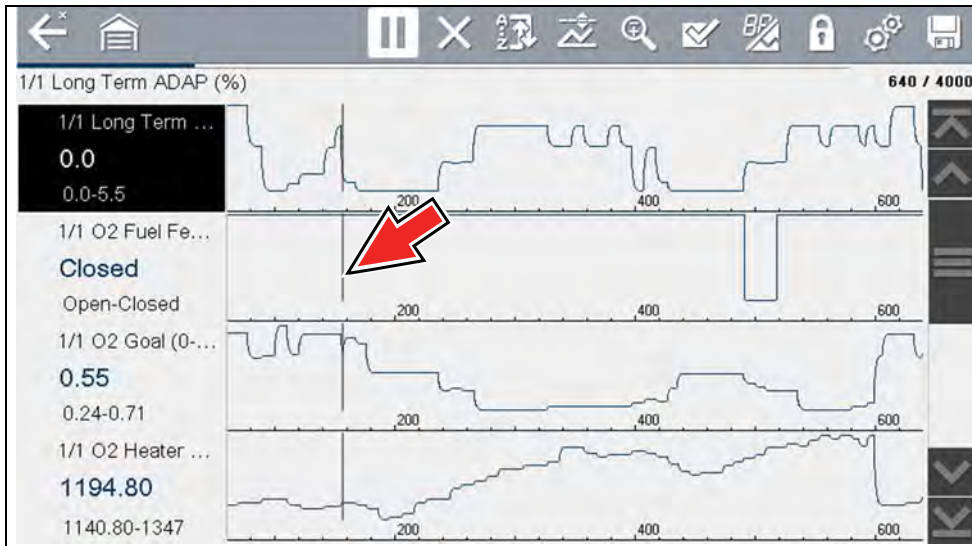

Figure 5-33
- Select the **Start** icon . The screen changes back to display data (Figure 5-33). A vertical gray cursor is displayed on all PIDs, indicating where the data was paused (Figure 5-33).